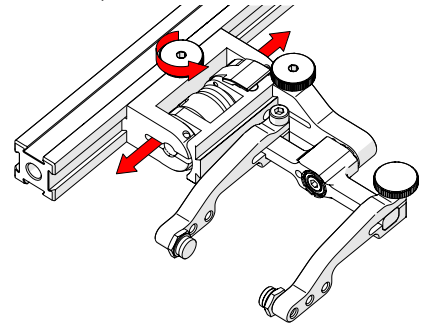

Fig. 36 - Adjust on frame bar
2. Use the probe holder adjustment knob to position the probe holder along the frame bar (Fig. 36).